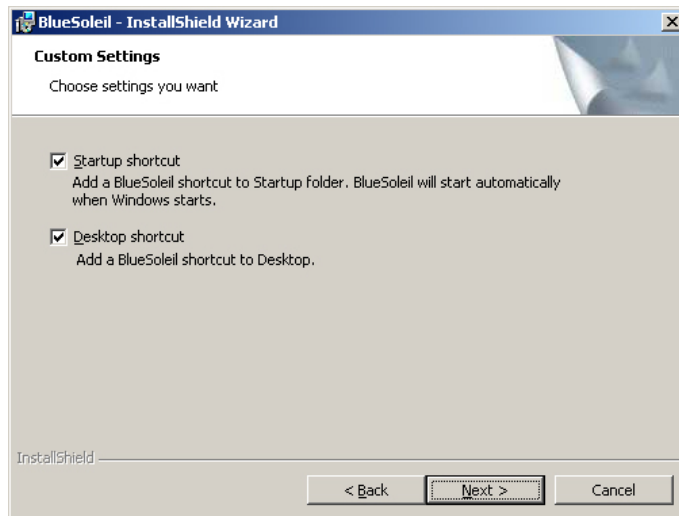

Figure 7-32: Bluetooth Driver Setup Options
Step 5: The **Custom Settings** screen in **Figure 7-32** appears next.
Step 6: Select the required installation configuration in **Figure 7-32** and click **NEXT** to continue.